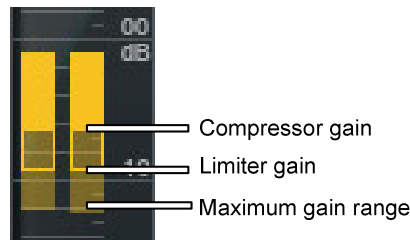

Figure 4 - Compressor and limiter gain display.
The current gain of the compressor and limiter are visualized by the vertical bars on the left-hand side of the input/output display (see also Figure 4). The gain is subdivided in compressor gain (filled area), limiter gain (non-filled area) and maximum gain range history (transparent area). The limiter gain will only be visible if the limiter is enabled using switch (18). The gain history can be reset by clicking on the display. Numerical values will be given below and above the bars (without incorporating the sign of the values).